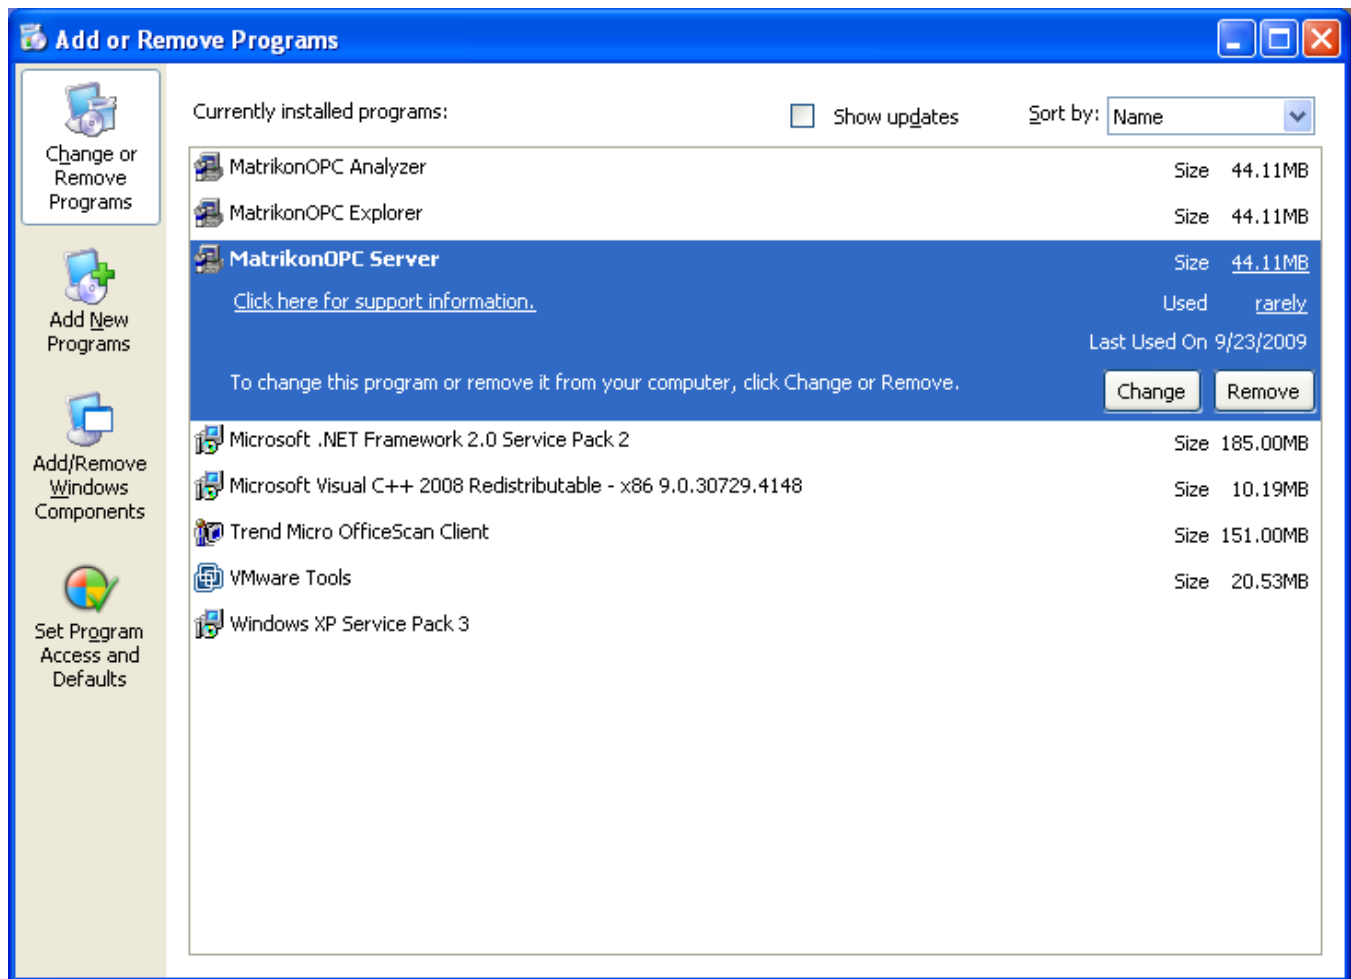

Figure 69 – Add or Remove Programs
3. The **Add or Remove Programs** window (Figure 69) is displayed.